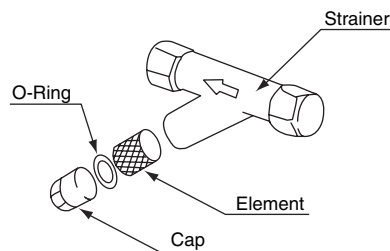

Fig.2
2. Please take out and clean the element inside a strainer.(Fig.2)